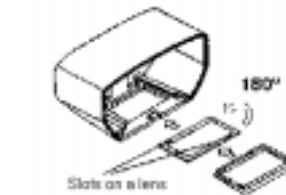

Fig.5
- Draw out the lens, rotate it 180°, keeping its smooth side directed toward the outside of the front housing (fig.5).